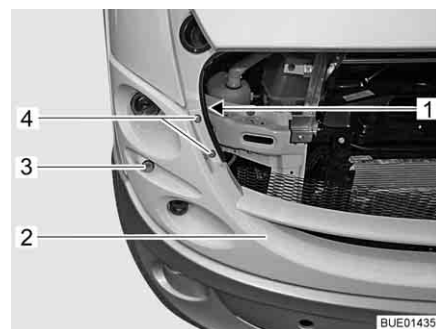

Fig. 260 Plastic apron with lights
- Unscrew and remove screw (Fig. 260,1) with washer.
- Holding the plastic apron (Fig. 260,2) at the side, carefully pull it a little bit forwards until the lamp housing is accessible.
- Remove the lamp housing of the parking light (Fig. 260,3) with the lamp.